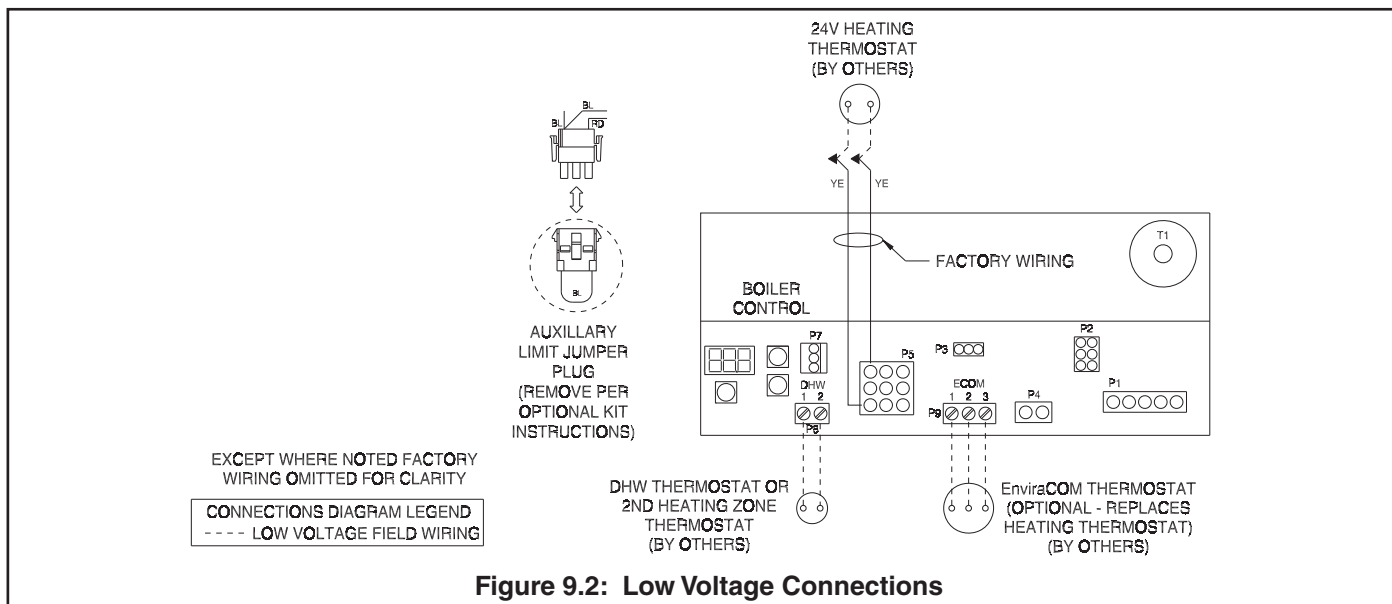

Figure 9.2: Low Voltage Connections
- Wire additional field supplied safety limits, such as low water cut-offs and temperature limit devices, so as to break the 120V power supply to the boiler. Alternatively, some 24V safety limits can be wired in place of the limit jumper shown in Figure 9.2. Do not alter the boiler's factory wiring when adding a field supplied limit device.
NOTICE: This boiler is equipped with a listed high water temperature limit function. This limit provides boiler shutdown in the event the boiler water temperature exceeds the set point of the limit control. Certain Local Codes require an additional water temperature limit. If necessary, install an additional water temperature limit (P/N 106056-01) or equivalent Honeywell L4006 Aquastat. Wire as indicated in Figure 9.2.
- a. System Circulator - Pumps water upon a call for heat (CH) from a heating thermostat connected to the leads shown in Figure 9.2 or from an EnviraCom thermostat.
- b. DHW Circulator - Pumps boiler water to an indirect water heater upon a call for domestic hot water (DHW) from the DHW thermostat terminals shown in Figure 9.2. This output can also be used for a second space heating zone (See Section 11 for additional information).
2. Low Voltage Connections – Low voltage field connections are located as shown in Figure 9.2 and are as follows:
- a. Heating (CH) Thermostat - Connect to a 24 volt thermostat or other “dry contacts” (such as a zone panel end switch) that close upon a call for heat. Follow thermostat manufacturer's instructions. To insure proper thermostat operation, avoid installation in areas of poor air circulation, hot spots (near any heat source or in direct sunlight), cold spots (outside walls, walls adjacent to unheated areas, locations subject to drafts). Provide Class II circuit between thermostat (or zone controls) and boiler.
- c. Auxiliary Limit Jumper - Used to connect auxiliary limit device. If no such devices are installed, the factory supplied jumper shown in Figures 9.2 and 9.3 must be installed for boiler to operate.